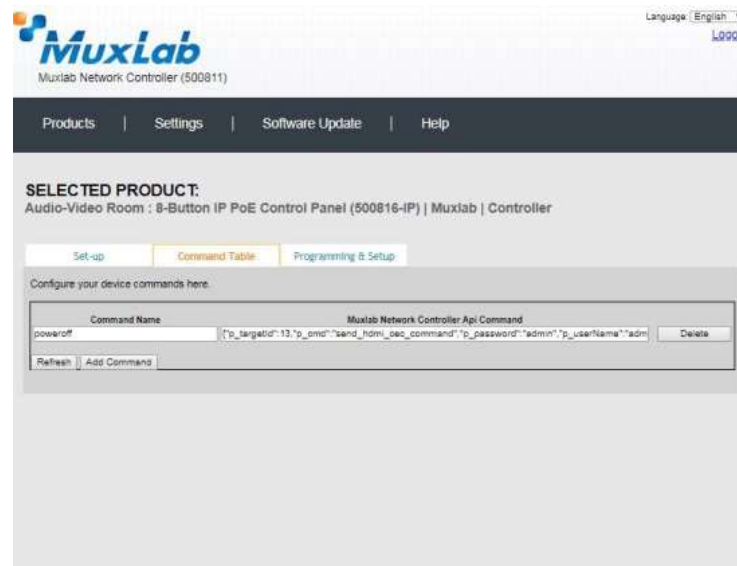

Figure 482: Command Table Tab – Entering Commands
- Actions: Allows the user to program commands for all 8 buttons (Figure 482).
- Select the “Times” value - Each button press can execute up to 6 events. A time delay between each event can be set. Time(S) is the time delay set between 2 events (in seconds). As there is just one command in this example, select time = “0”.